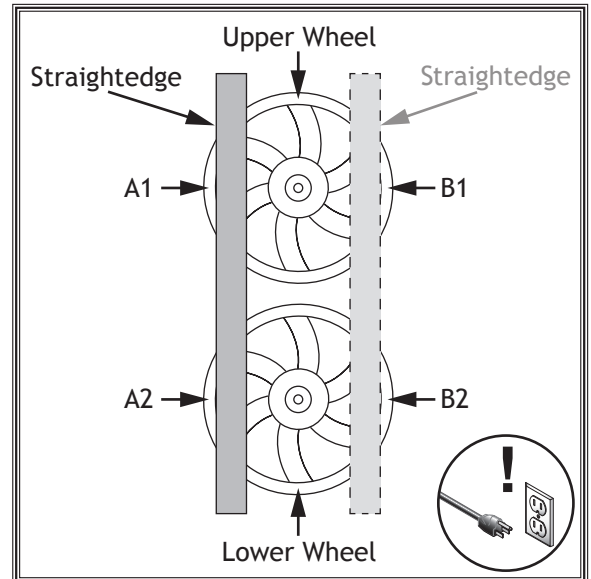

Figure 51. Example of using a straightedge to check lateral wheel alignment.
3. Use a straightedge to check wheels at A and B locations (see **Figure 51**). The wheels should align.
4. Mark upper and lower wheels with a pencil or marker to indicate measuring locations (see **Figure 51**).